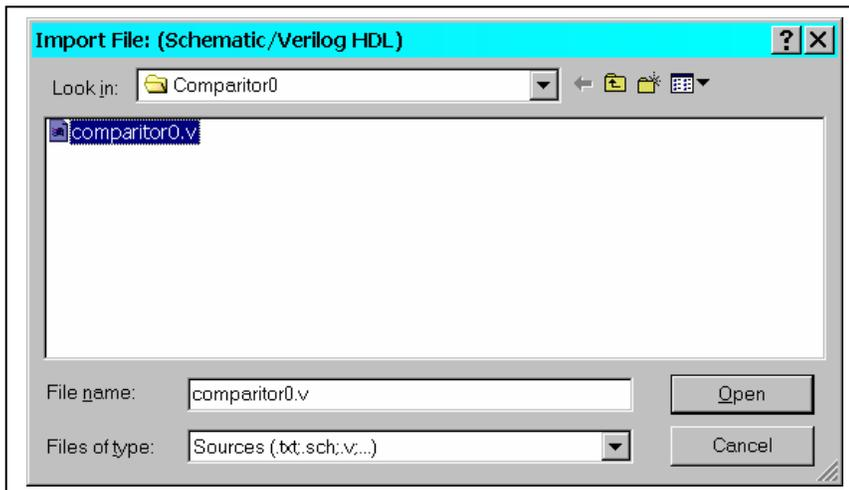

Figure 5.
8. Select the desired file and select *Open* as in Figure 5